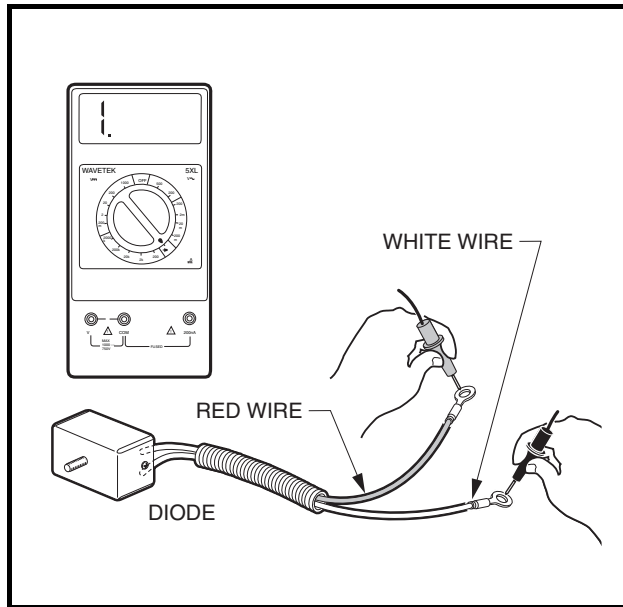

Figure 11-36 Diode Test
4. With the multimeter set to the diode test function ($\rightarrow|$), connect the black (-) probe of the multimeter to the white lead of the diode and the red (+) probe of the multimeter to the red lead of the diode (**Figure 11-36, Page 11-31**). The reading should indicate an overload (no continuity). A diode is designed to conduct current in one direction only. If a diode conducts current (shows continuity) with the meter probes as described, the diode has failed and must be replaced. **See Diode Removal, Section 12, Page 12-12.**